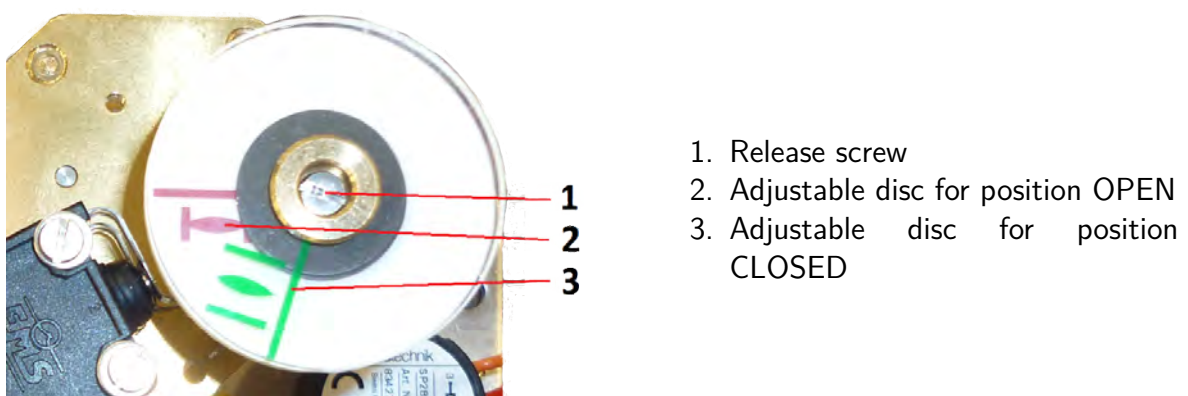

Figure 9.7: Mechanical position indicator
If optional switches are fitted for intermediate position signalling, they are operated by means of the shaft cams of the mechanical position indicator. Operate to the respective intermediate position for the setting procedure. Then turn the handwheel by approx. 30° into the opposite direction. For setting the respective cam on the shaft of the mechanical position indicator, slightly unfasten the release screw (figure 9.7, item 1). After cam setting, fasten the screw (Not too tight! Do not exceed 0.5–0.7 Nm). Check the set tripping points by operating over full travel.
Figure 9.7 shows the components of the mechanical position indicator.